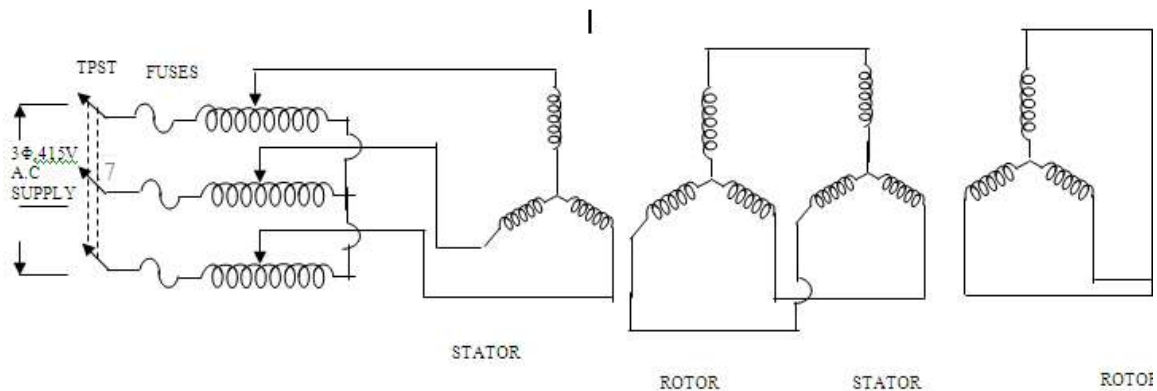

Figure 3 CIRCUIT DIAGRAM FOR CASCADE CONNECTION
4. Then make the connections as per the fig 3
- 1 Conduct a ZPF test by connecting the circuit as shown in fig 3